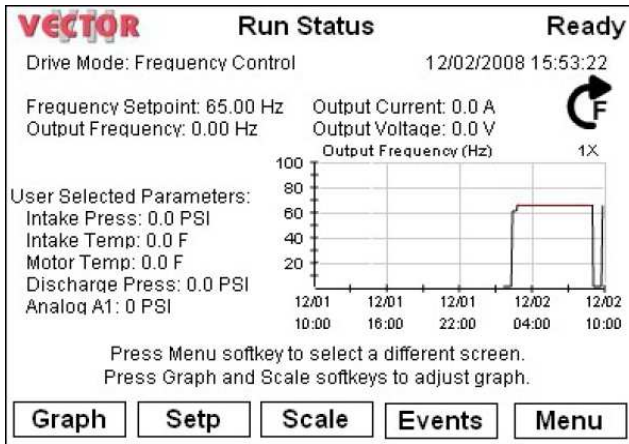
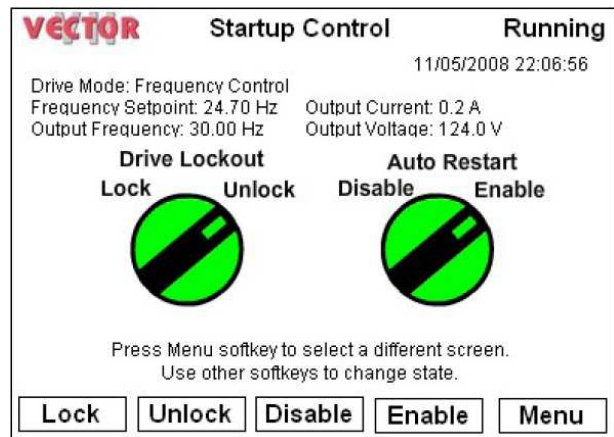

Figure 1
Figure 2
- Comprehensive Run Status Screen. (See Figure 1)
- Drive and well parameters are displayed in plain text. (See Figure 1)
- Operator Control Panel displays actual date and time. (See Figure 1 and Figure 2)
- Software Embedded Lock Out Switches. (See Figure 2)